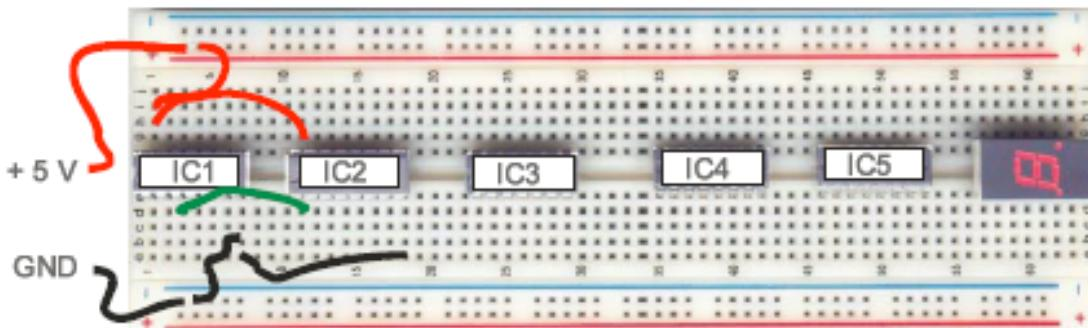

Figure 6: Insert IC and wire in a prototyping board
- Figure 6 shows the wiring connection between ICs and the power supply.